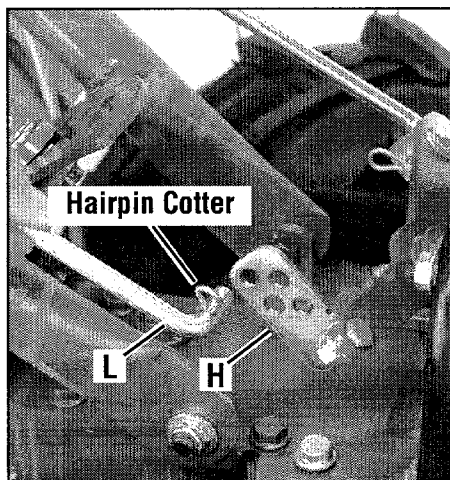

Figure 2-7: Install Forward Clutch rod.
1. The upper end of the Forward Clutch rod is attached to the bottom of the handlebar control panel. Turn the rod (L, Figure 2-7) so that the small bend at its lower end points inward toward the clutch swivel plate (H).
2. Insert a hairpin cotter down through the hole in the rod that is located closest to the bend (see Figure 2-7).